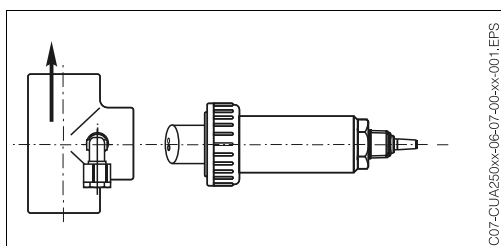

Fig. 8: Parallel sensor orientation
- Two sensor orientations are possible for every installation (→ Fig. 8, 9):